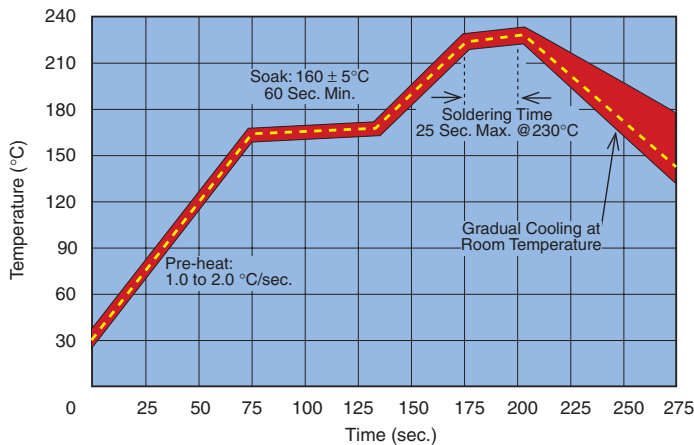
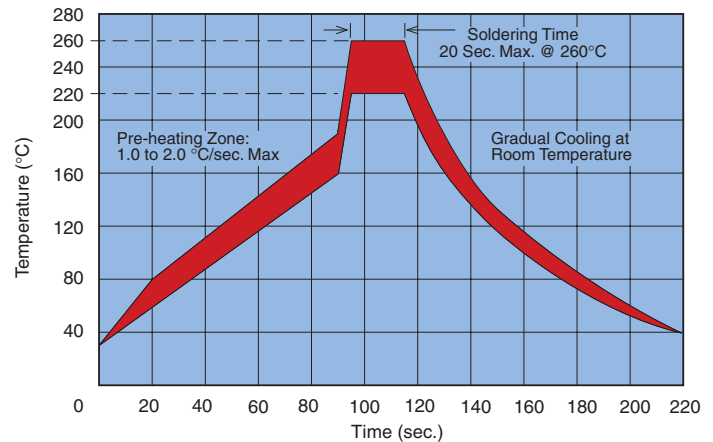

Figure 1: Solder Reflow Profile for LASERtrims®
Figure 2: Solder Reflow Profile for MLCCs
**LASERtrim® CAPACITORS** - Offered with gold flashed nickel-barrier terminations only. Due to the unique internal construction of the LASERtrim® it is recommended that a conservative reflow temperature profile be used ( Fig. 1). Wave soldering is discouraged.
The general term "reflow" refers to several methods used in heating the circuit so that solder paste reflows, or "wetting" of the ceramic capacitor and PCB contacts occurs. These methods include infra-red, convection and radiant heating. The size of the solder fillet may be controlled by varying the amount of solder paste that is screened onto the circuit. Recommended temperature limits for solder reflow are shown in Figure 1 for LASERtrim® and in Figure 2 for standard capacitors.